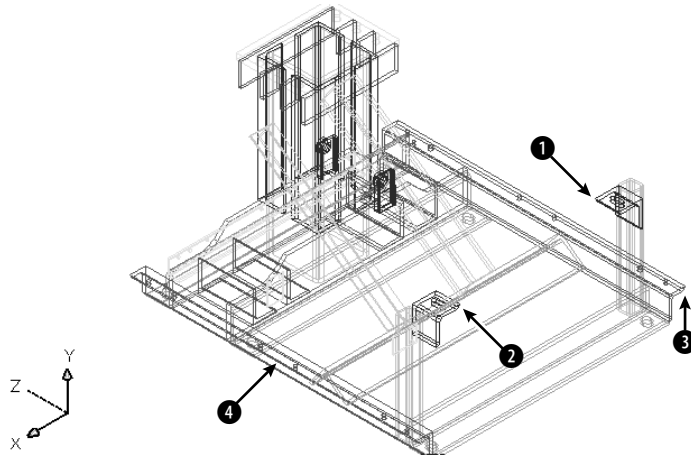

Figure 28-6: The base assembly frame.
2. Save the file as ab28-01.dwg in your AutoCAD Bible folder. This is a 3D drawing of a base assembly frame for an industrial washer, shown in Figure 28-6.
4. Choose Insert ⇄ Hyperlink. At the Select objects: prompt, pick ❶ and ❷ in Figure 28-6. The Insert Hyperlink dialog box opens.
6. Repeat the HYPERLINK command. This time, attach ❸ and ❹ in Figure 28-6 to ab28-b.dwf in your AutoCAD Bible folder. Click OK to close the dialog box.